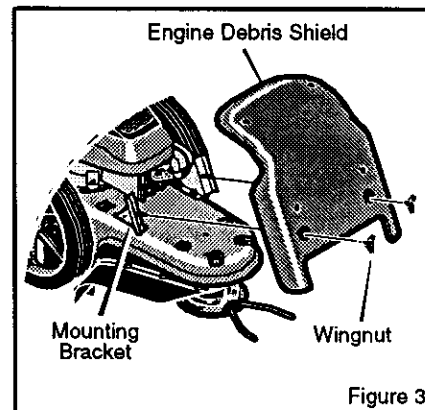

Figure 3
2. Attach the engine debris shield to the two mounting brackets with the wingnuts as shown in Figure 3. Make sure the wingnuts are tight.